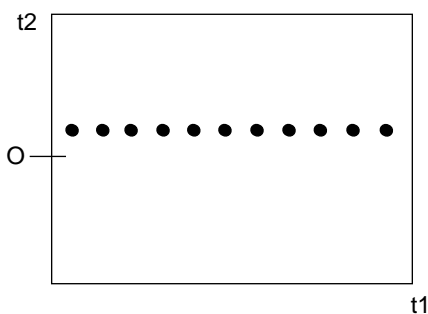

Figure 24. Aligned Echoes
- d. Adjust the `grora` parameter (in ± 0.1 unit steps) until the echoes line up, as shown in Figure 24.